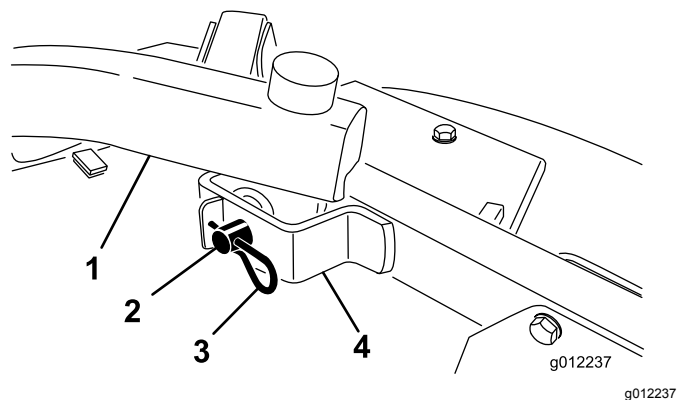

Figure 24
2. Remove the hairpin cotters and clevis pins securing the lift arms to the castor arm brackets (Figure 24).